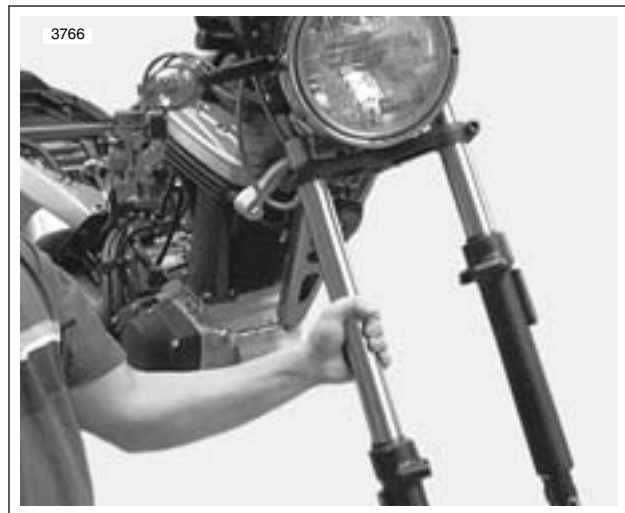

Figure 2-86. Installing Fork Tube
1. See Figure 2-86. Install fork tubes through upper and lower triple clamps.